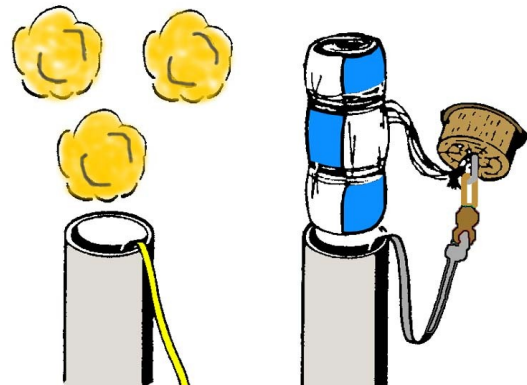

Figure 12
- Step 38** As shown in Fig. 12 above, insert about 3" of flameproof wadding, either as sheets or as shredded cellulose fill, into the top of the sustainer body tube and push this down gently with a dowel. You must not pack this material tightly! A tight fit will not blow completely out of the model and may result in a failed recovery system, which may result in the destruction of the model. Push the shock chord in on top of the fill, followed by the parachute.